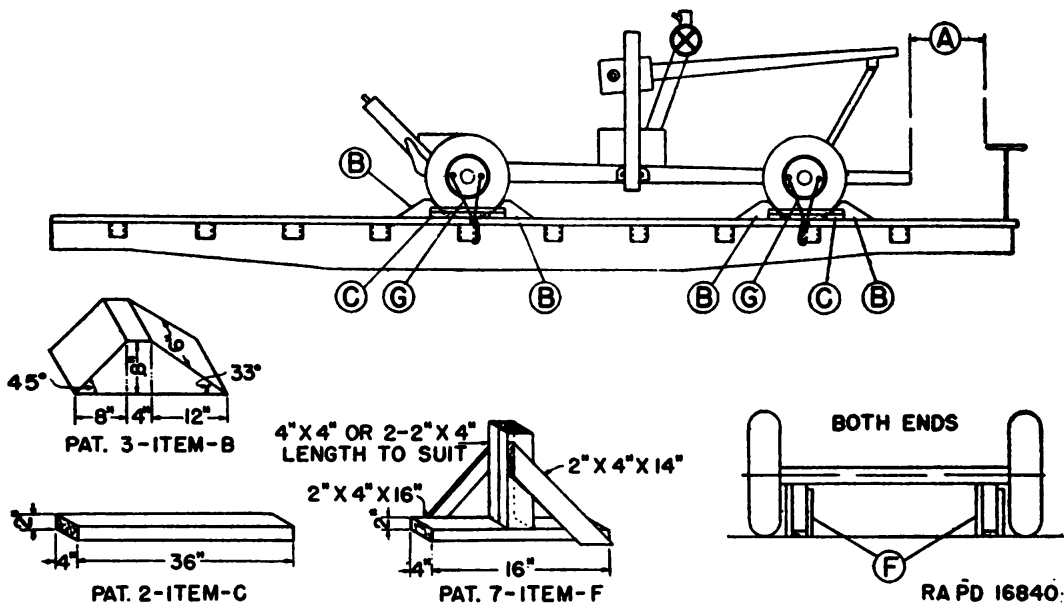

FIGURE 142.—Method of blocking 37-mm AA gun matériel.
clearance should be increased as much as is consistent with proper location of load. (See fig. 142 (A).)
(2) *Blocks*.—Eight blocks are required to restrain the gun and mount from any longitudinal movement while in transit. The blocks will be 6" x 24" as illustrated by pattern 3, figure 142. One block will be placed in front and one block to the rear of each wheel supporting the carriage. The height of each block at point of contact with the tire will be not less than 4 inches from the car floor. The heel of the block will be nailed to the car floor with three 40-penny nails and that portion under the tire toe-nailed to car floor with two 40-penny nails before the cleats are applied. (See fig. 142.)
(3) *Cleats*.—Eight cleats are required in order to prevent any skidding or side slipping movement of the carriage while in transit. Cleats will be cut 2" x 4" x 36" as illustrated in pattern 2, figure 142.
(4) *Braces*.—Braces will be constructed and placed under both front and rear axles, partially relieving the weight on the tires, thus preventing any bouncing or galloping of the mount while in transit. The braces will be constructed as illustrated in pattern 7, figure 142. The height of the braces will be the distance between the axle and car floor plus one-quarter inch. The braces will be placed between car floor and axle. (See fig. 142 (F).)
venting overriding of the blocks. Four strands, two wrappings of No. 8 Gage black annealed wire will be passed through holes in wheels and secured to the stake pockets of a flat car and twist tied with rod or bolt. When the carriage is shipped in a box car either flat steel or wire strapping may be used. The strapping will pass over the axle over each brace (fig. 142(F)) and will terminate securely under wood blocks which are nailed to the car floor.